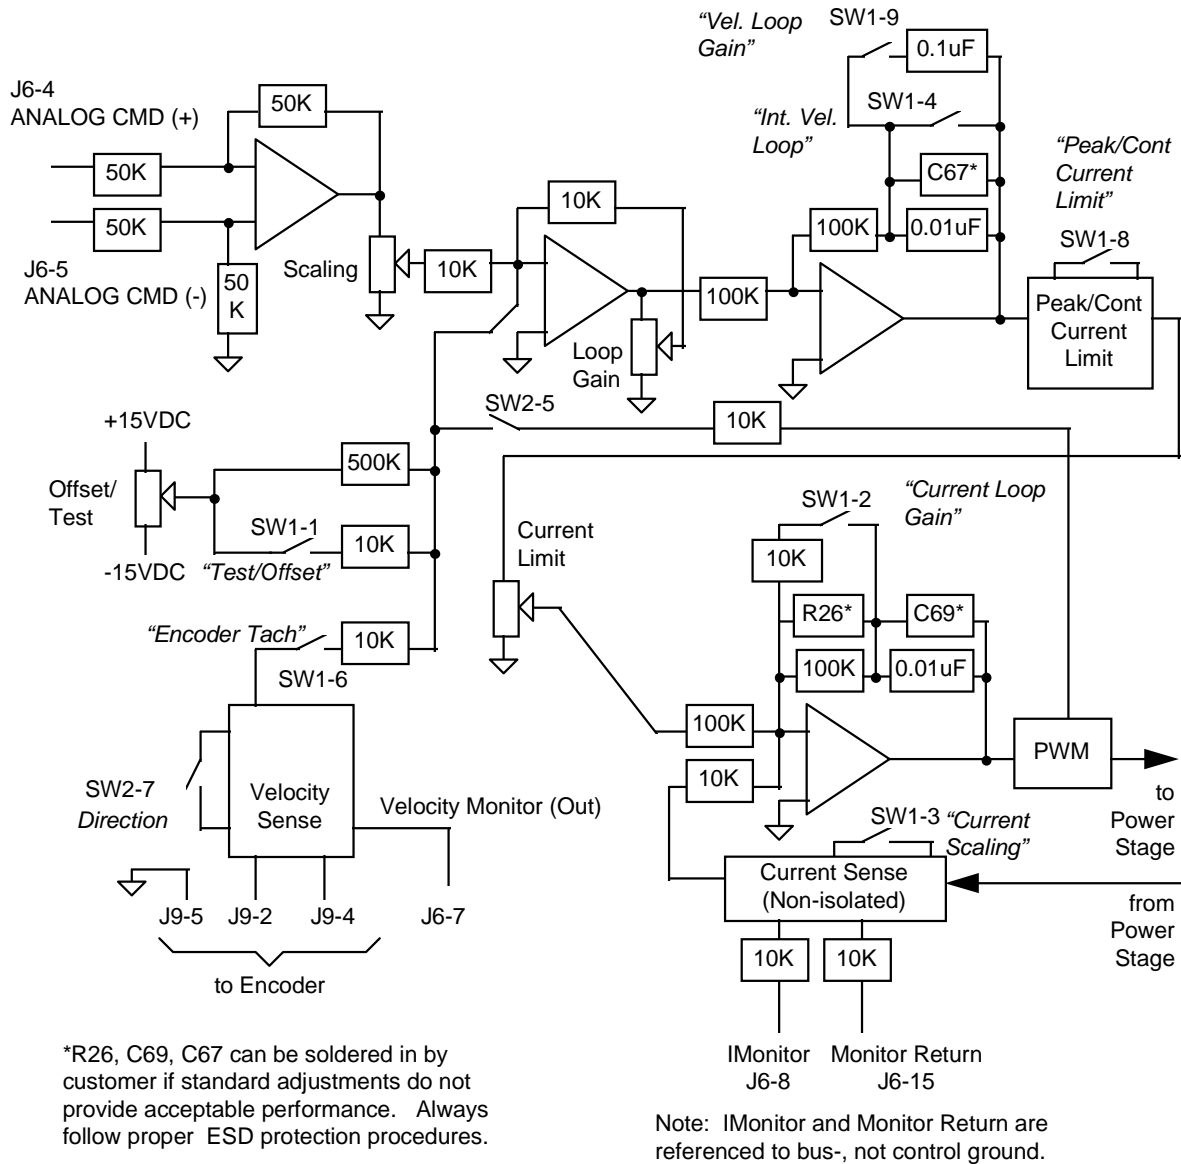

Figure 3.1 Control Loop Function Diagram
The RO(L) control section is shown in Figure 3.1. Note that switches SW1-4 and -6 control mode selection.
when the motor and amplifier are in a noisy environment or separated. Second, the range of adjustment is limited. Velocity loop operation may be unacceptable for some applications, particularly those with large inertial loads and those requiring high bandwidth. However, the RO(L) provides locations for various discrete components which you can solder directly into the PCB (see C67, C69, and R26 in Figure 3.1).